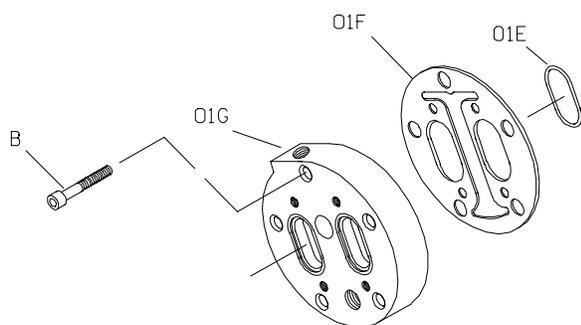

Figure E-2. Typical Head Jacket Assembly
If your pump is equipped with an optional head jacket, see Figure E-2 and remove the capscrews (B) securing the head jacket (01G), gasket (01F) and O-rings (01E) to the head assembly (01A, Figure E-1).
(Figure E-2 And E-3)